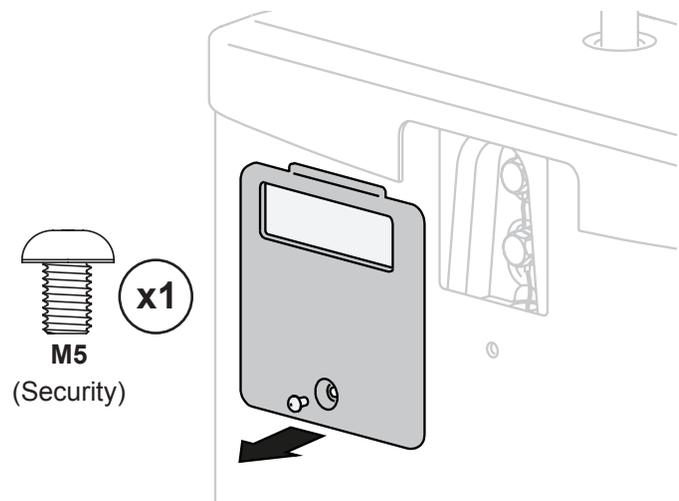

Figure 24: Sensor cover removal
- ▶ Ensuring the unit is drained, use an appropriate tool, remove the sensor cover, see figure 24.